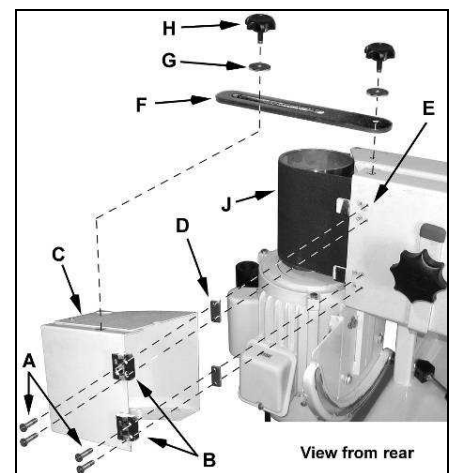

Fig 5
Attach the drum guard (C, Fig 5) with four M4x20 screws (A). Two rectangular spacers (D) need to be placed between hinges (B) and belt cover (E).